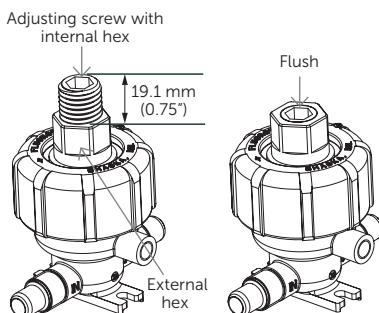

Figure 3.
12. Place the diaphragm preload tool (T2) onto the retainer nut (P11) and screw on the outer cap (P9) to hold it in place. (See Figure 3.)
7. Secure the diaphragm preload tool (T2) in place with the outer cap (P9). (See Figure 3.)
8. With an adjustable wrench (S6), hold the diaphragm preload tool (T2) external hex from rotating and turn the internal hex on top of the diaphragm preload tool (T2) with the 1/2" allen wrench (S7) clockwise until it is flush with the top surface of the tool. (See Figure 3.)